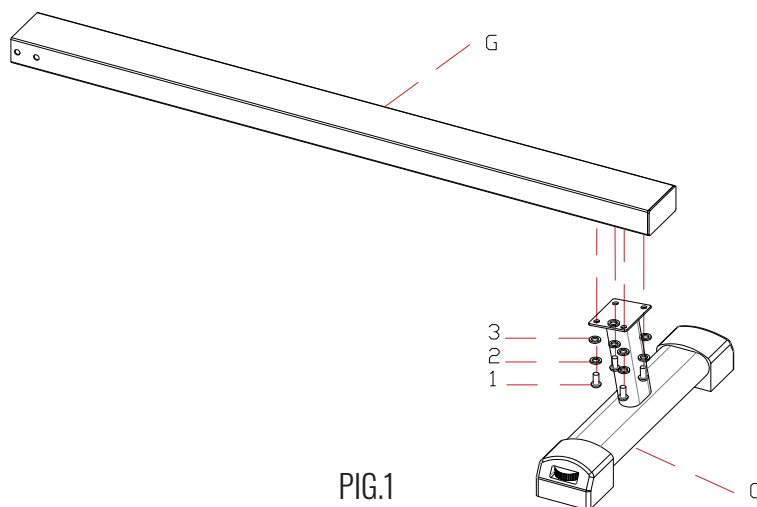

FIG.1
Use a cross wrench to take out the cross pan head screw M4*10 (7) and flat washer $\varphi 4$ (8) that pre-locked on the console (H). Install the console(H) on the rower as shown in the FIG.7. Note: The outlet wire(N) of the console and outlet wire(M) of the console holder should be connected and placed according to the method of FIG.1 to avoid pressing the wire.